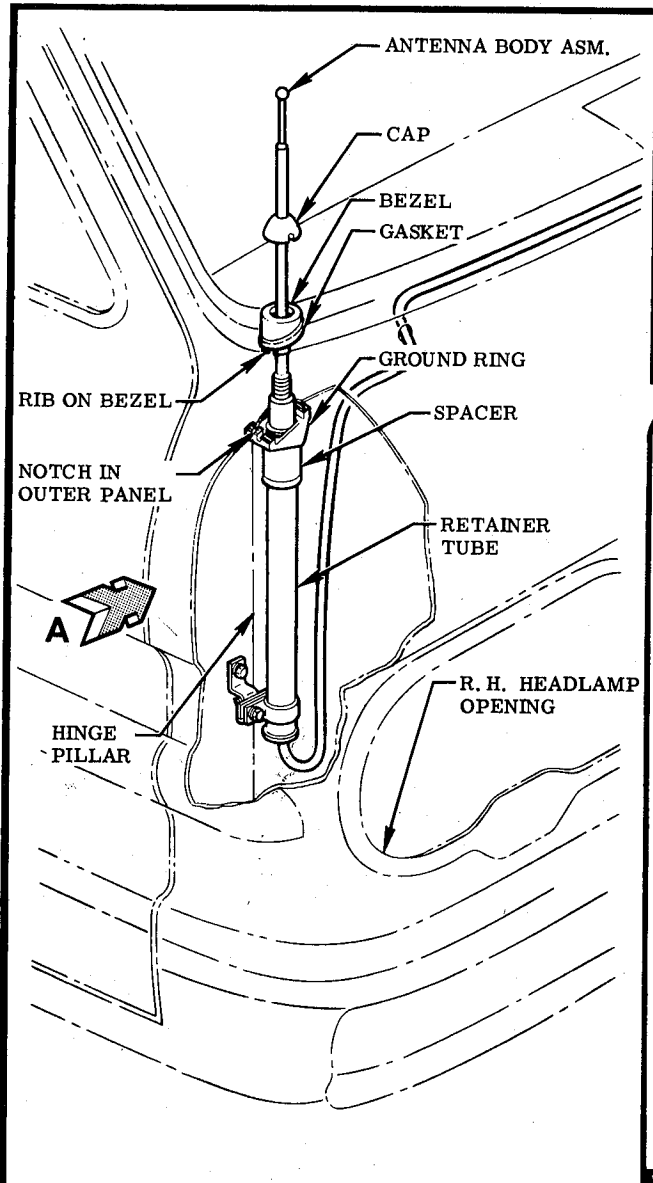

FIG. 1 ANTENNA MOUNTING
- STEP 5** SUB-ASSEMBLE GASKET & BEZEL. PLACE GASKET, BEZEL & CAP ONTO ANTENNA BODY ASM., POSITION RIB ON BEZEL INTO NOTCH IN OUTER PANEL. SECURE CAP WITH SPANNER WRENCH. SEE FIG. 1 & VIEW A.
- STEP 7** ASSEMBLE CLIP, BRACKET & "U" NUT TO RETAINER TUBE AT DIMENSION SHOWN WITH ONE OF PROVIDED SCREWS. USING BRACKET AS A TEMPLATE, DRILL HOLE IN HINGE PILLAR & ATTACH BRACKET TO PILLAR WITH REMAINING SCREW. SEE FIG. 1 & VIEW A.